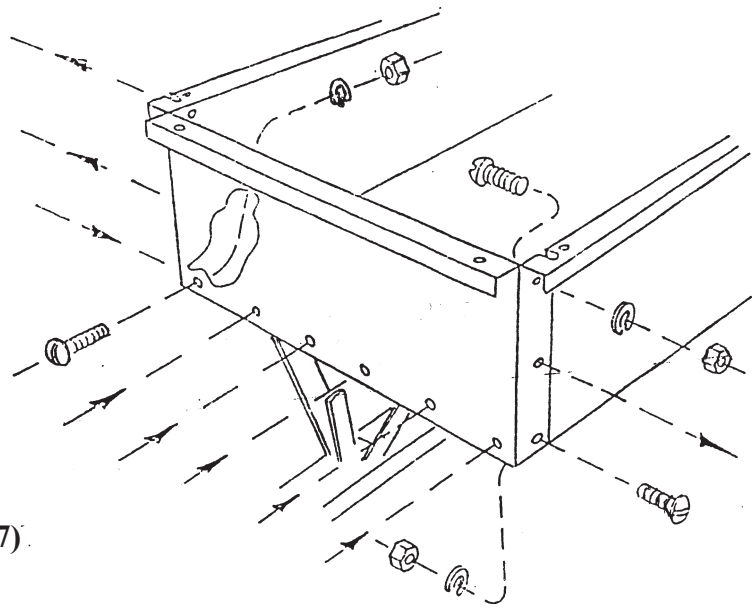

Figure 14
Step 14: Assemble the Front Panel (#16) to the Front Cross Brace (#2) and the two Side Panels (#14) by using 12 Bolts (#21), 12 Washers (#23) and 12 Nuts (#24). Bolt positions are shown in Figure 14 at right.